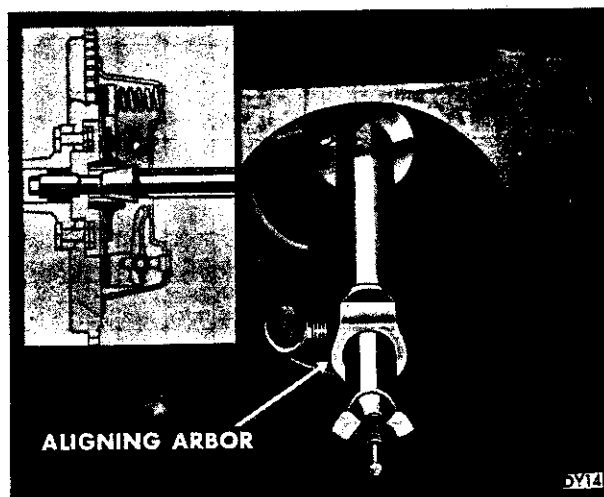

Fig. 10—Clutch Disc Aligning Arbor
(2) Clean the surfaces of flywheel and pressure plate thoroughly with fine sandpaper or crocus cloth, and make certain that all oil or grease has been removed.
(3) Hold clutch disc, pressure plate and cover in mounting position, with springs on disc damper facing away from the flywheel. **Do not touch disc facing, as contamination may result in clutch chatter.** Insert a Clutch Disc Aligning Arbor through hub of disc and into bushing (Fig. 10). If an Arbor is not available, use a spare transmission drive pinion.